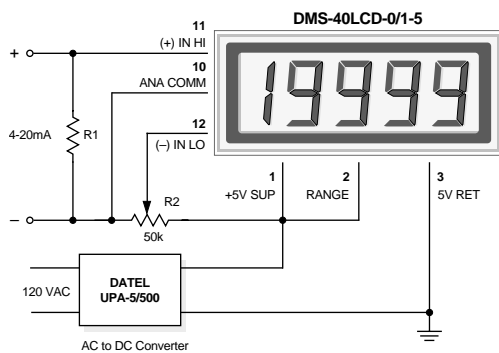

Figure 7. 4-to-20mA Current Loop Operation (5V-Powered Models)
**5. Process Control (4-to-20mA) Measurements:** In many common process-control applications, a 4-to-20mA current loop is used to transmit information. Because DMS-40LCD meters have such high input impedance, a simple shunt resistor across the meter's input can be used to convert the loop current to a voltage. See Figure 7. The value of the shunt resistor is a function of the scaling requirements of the particular application and can be calculated using the following equation:
To calibrate the circuit of Figure 7, perform the following: